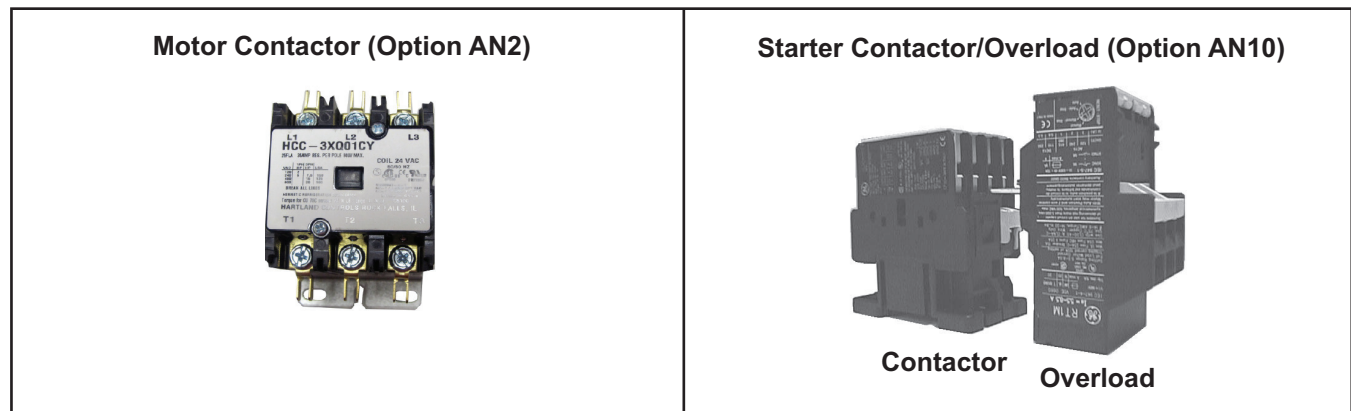

Figure 4. Motor Contactor and Starter Contactor/Overload
- The motor contactor and starter contactor/overload are shown in Figure 4.
- For motors with internal overloads, the standard motor contactor (see Figure 4) is manufacturer's model number HCC-3XQ01CY (PN 216386, option AN2).